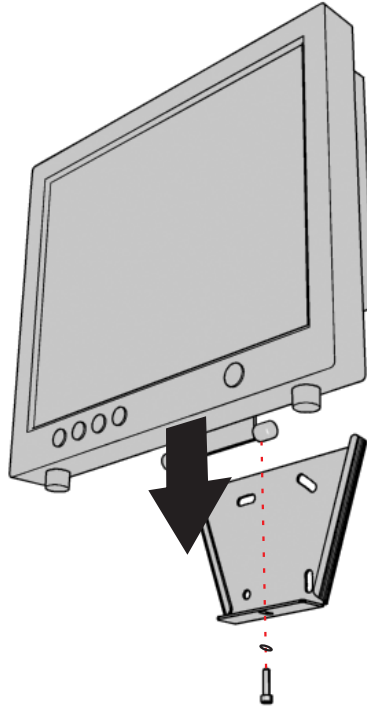

Figure 4. Attaching the Wall Mount and Monitor
4. Carefully slide the monitor mount into the slots of the wall bracket. Use the 10-32 socket head screw and the flat washer (supplied) to fasten the wall bracket to the monitor mount. Refer to Figure 4. Use the 5/32-inch Allen wrench (supplied) to tighten the screw.